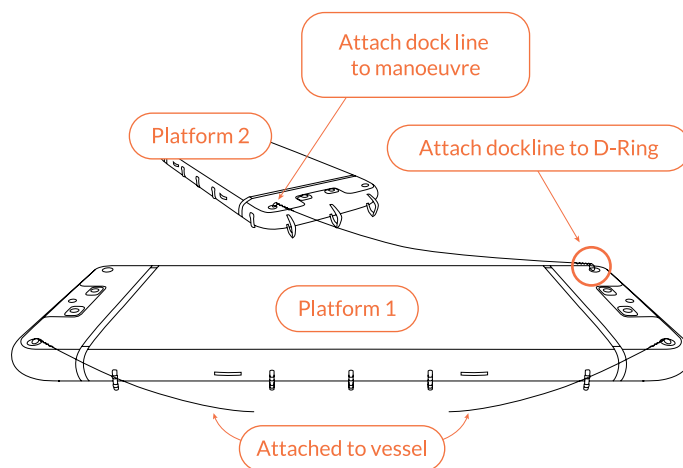

Fig 100 - Platforms secured to each other via a D-rings
2. Manoeuvre Platform 2 to Platform 1 (which is tied to the vessel) so they are side-by-side. Holding on tightly to the dock line that is attached to the D-ring manoeuvre and secure to Platform 1 D-ring using a Bowline. (Fig 100)